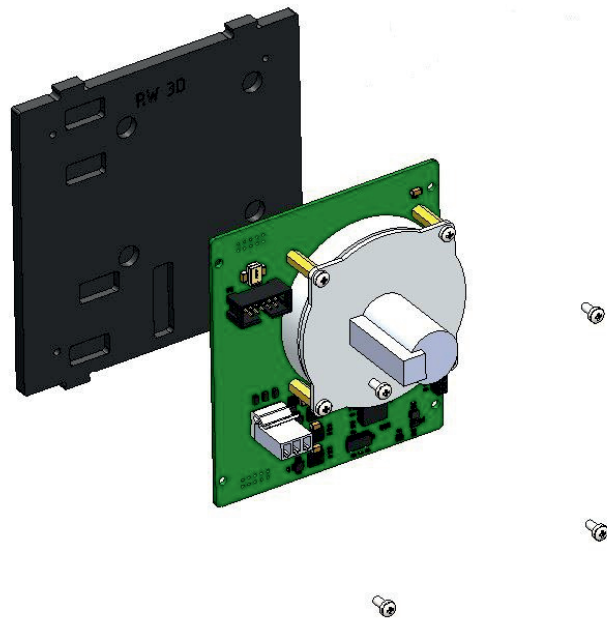

Fig. 60: Securing the reaction wheel board to the side wall
6) Secure the third reaction wheel board on the side wall using four M3x6 cylindrical-head screws (Fig. 60):